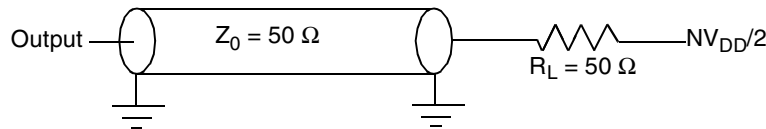

Figure 40. AC Test Load for the JTAG Interface
- All outputs are measured from the midpoint voltage of the falling/rising edge of t_{TCLK} to the midpoint of the signal in question. The output timings are measured at the pins. All output timings assume a purely resistive 50-Ω load (see Figure 40). Time-of-flight delays must be added for trace lengths, vias, and connectors in the system.
- The symbols used for timing specifications follow the pattern of $t_{(first\ two\ letters\ of\ functional\ block)(signal)(state)\ (reference)(state)}$ for inputs and $t_{(first\ two\ letters\ of\ functional\ block)(reference)(state)(signal)(state)}$ for outputs. For example, t_{JTDVKH} symbolizes JTAG device timing (JT) with respect to the time data input signals (D) reaching the valid state (V) relative to the t_{JTG} clock reference (K) going to the high (H) state or setup time. Also, t_{JTDXKH} symbolizes JTAG timing (JT) with respect to the time data input signals (D) went invalid (X) relative to the t_{JTG} clock reference (K) going to the high (H) state. Note that, in general, the clock reference symbol representation is based on three letters representing the clock of a particular functional. For rise and fall times, the latter convention is used with the appropriate letter: R (rise) or F (fall).
Figure 40 provides the AC test load for TDO and the boundary-scan outputs.